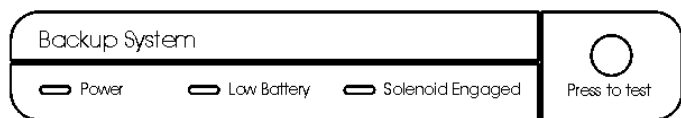

Figure 5-6
a. BUS Control Panel (see Figure 5-6)